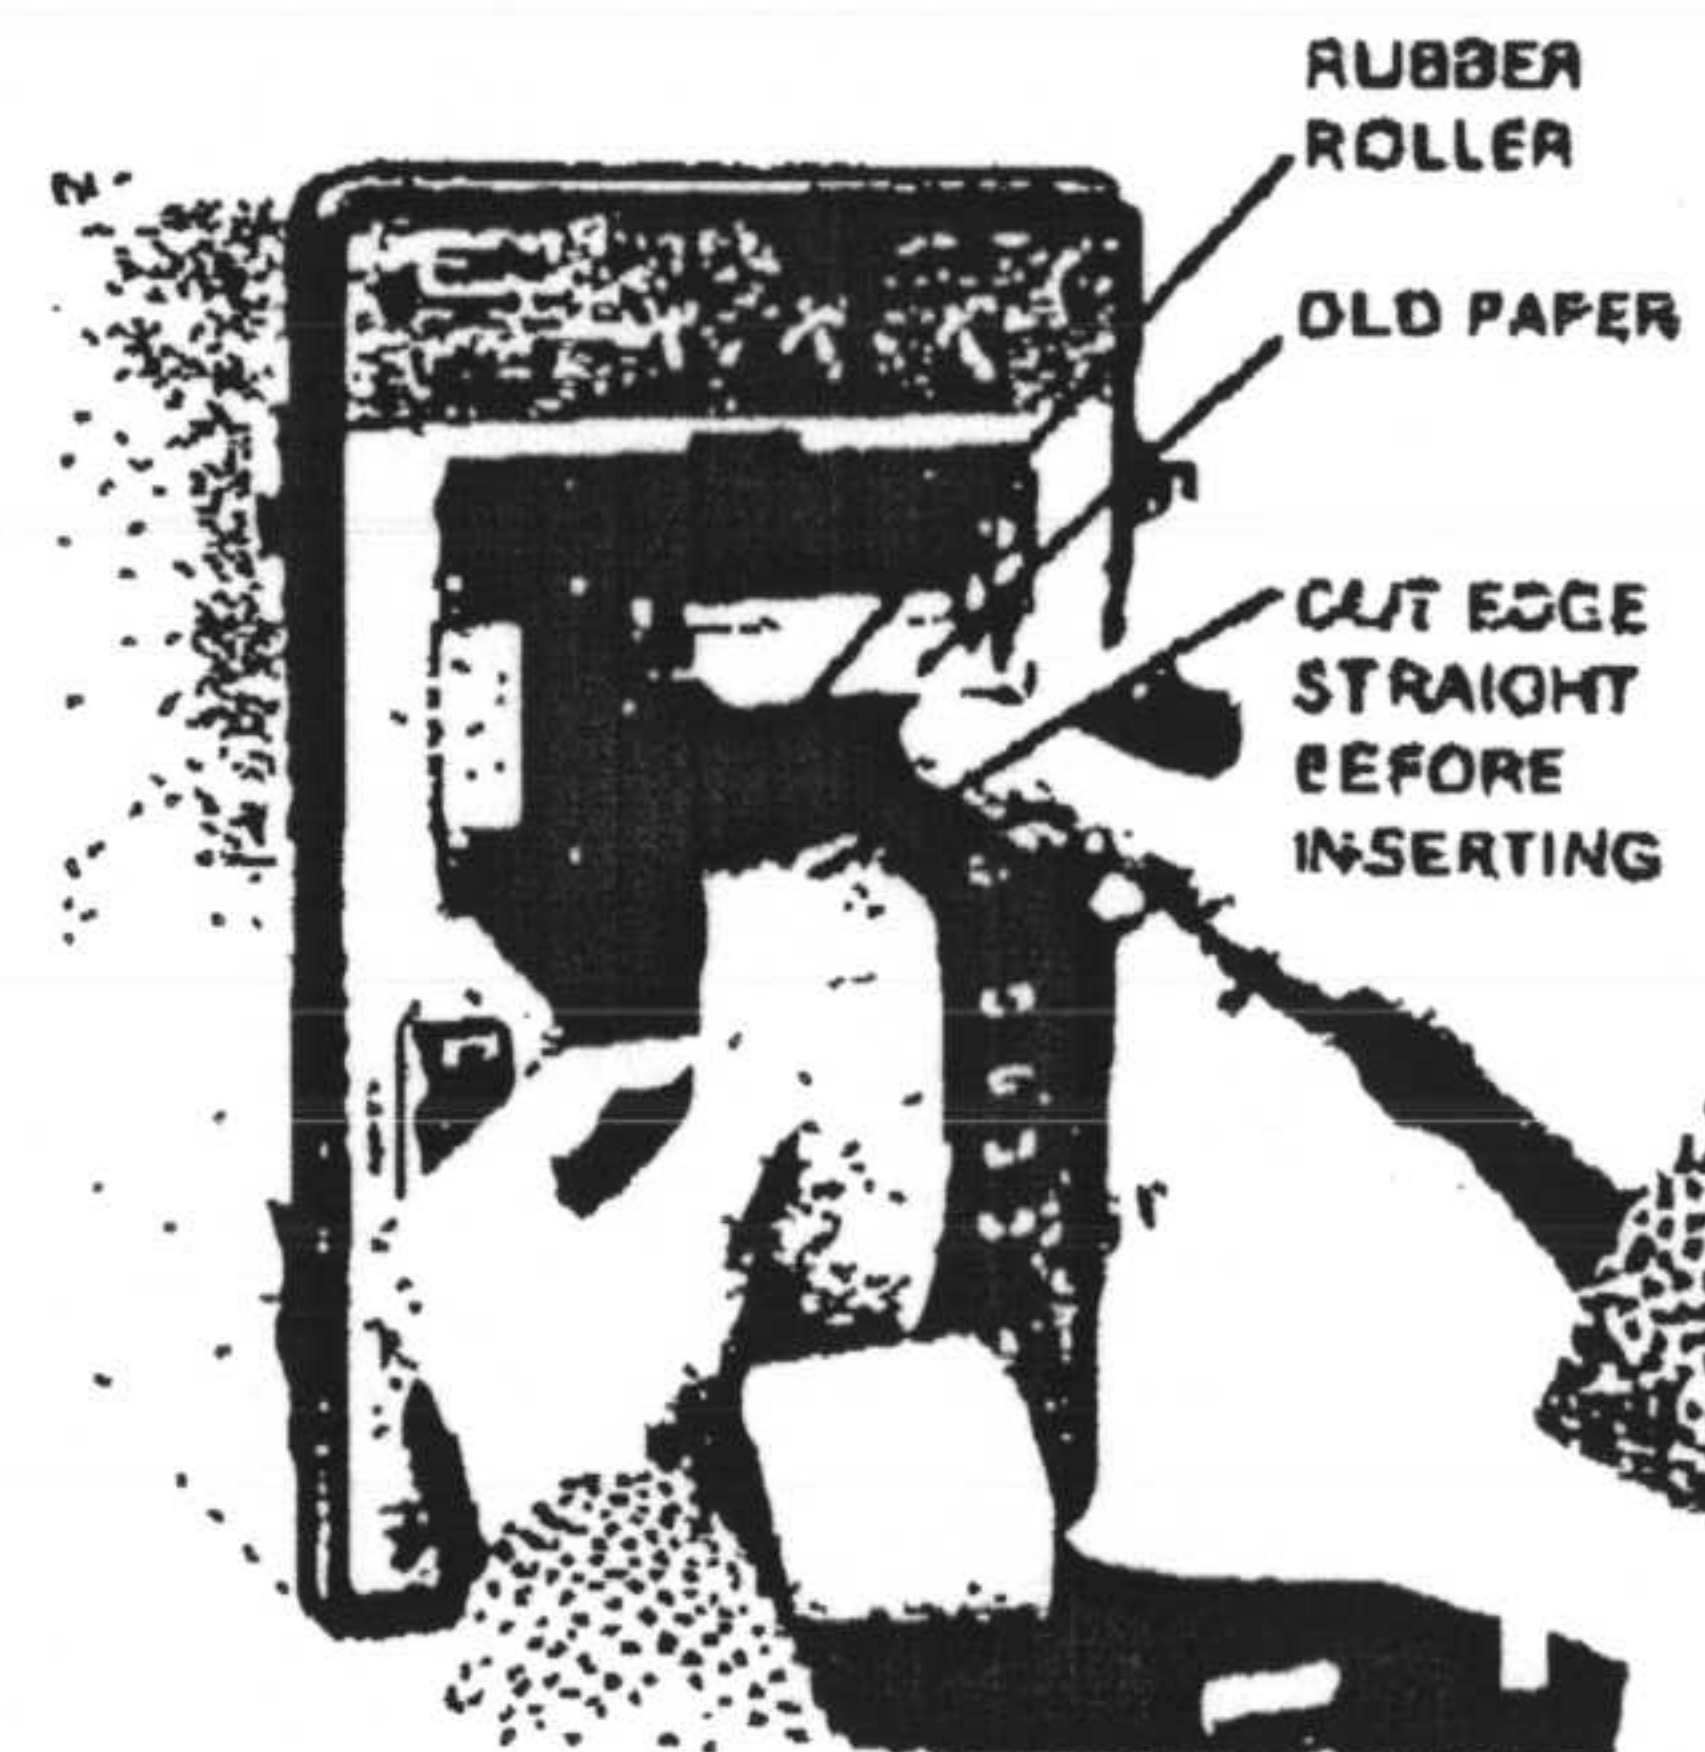

FIGURE 9
2) INSTALLATION OF PAPER TAPE (See Figure 9)
a. Depress upper edge of paper and printer cover and lower cover as shown in Figure 9.
e. Holding the paper roll so that it unrolls as shown in Figure 9, expand the two spring paper holders, install the roll, then release the holders to lock the roll in place.